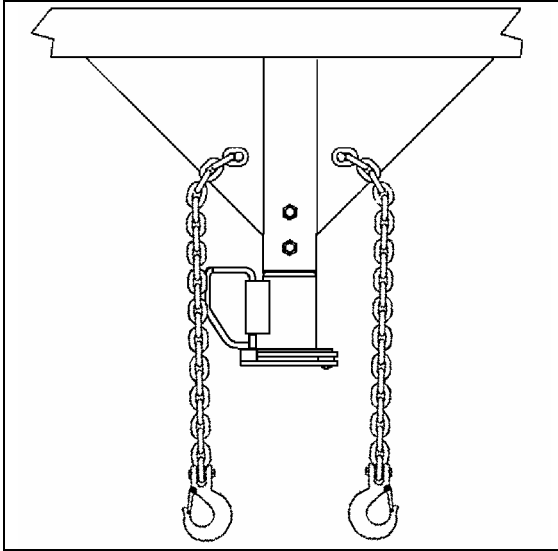

Figure 4-11 – Proper Safety Chain Arrangement
- Rig the safety chains so that they attach to the “safety chain receivers” in the bed of the truck. See figure 4-11. If you are not certain of the hitch provisions for receiving safety chains, contact the hitch manufacturer or installer. Do NOT attach the safety chains to the gooseneck ball or its support; and